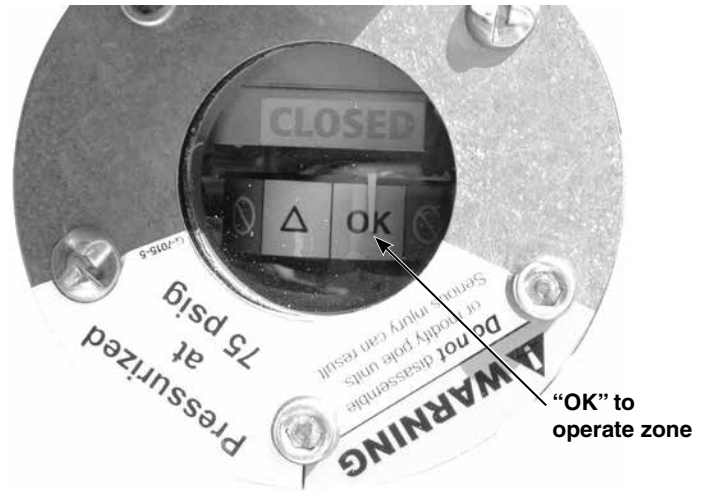

Figure 85. Check that the gas-pressure gauge on each pole-unit is in the “OK” to operate zone.
- That the gas-pressure gauge is in the white “OK” to operate zone. See Figure 85. If the gas-pressure gauge is in either the yellow or red zones, the gas density in the pole-unit has dropped. Refer to the instructions on page 40 for “Understanding the Gas-Pressure Gauge.”